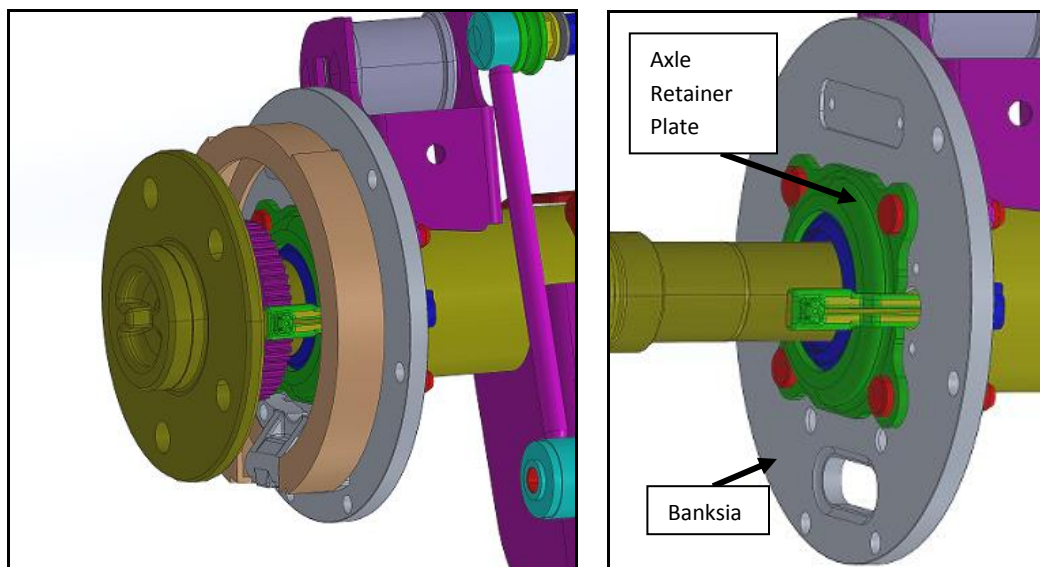

Figure 2: Banksia, axle and axle retainer plate
3. Install the axle and axle retainer plate using the OEM hardware. The banksia plate will be held in place by the OEM axle retainer plate bolts. See Figures 2 and 3 for reference.